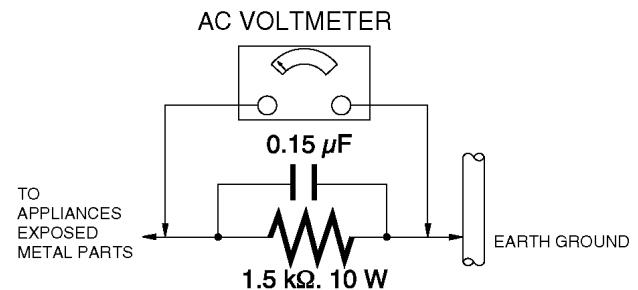

Figure. 1
| 1.3. Leakage Current Hot Check (See Figure 1.)----- | 3 |
1.3. Leakage Current Hot Check (See Figure 1.)
2. Connect a $1.5\text{ k}\Omega$, 10 W resistor, in parallel with a $0.15\text{ }\mu\text{F}$ capacitor, between each exposed metallic part on the set and a good earth ground, as shown in Figure 1.